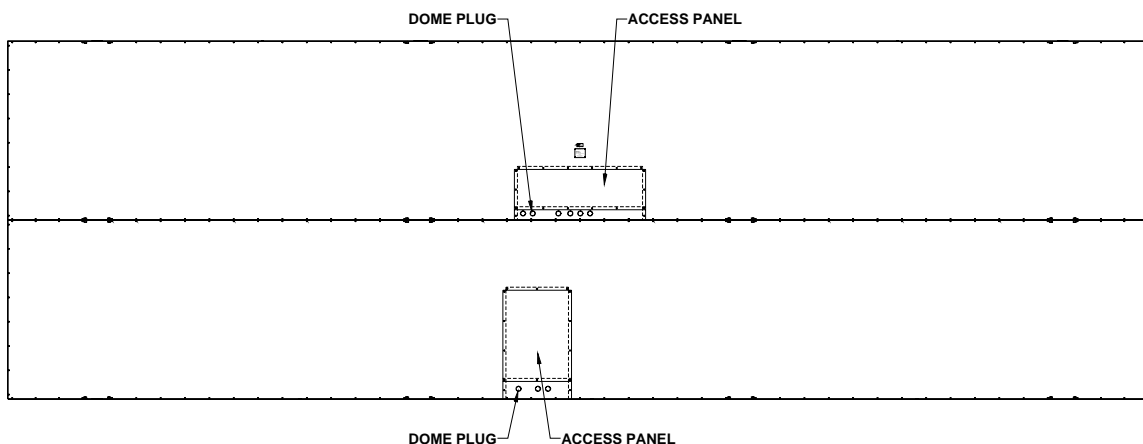

Figure 6 Rear Access Panels
3. Remove the rear access panels and the dome plugs on the plates below the access panels. Figure 6 shows the location of the access panels and the dome plugs.